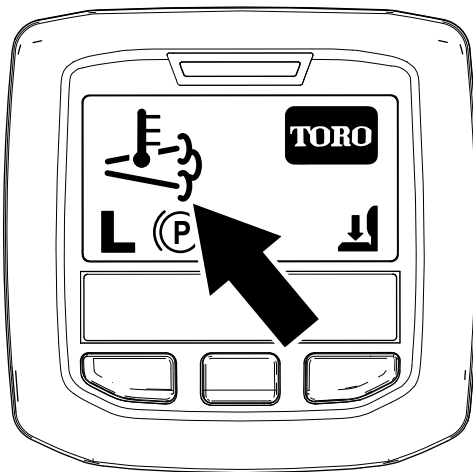

Figure 36
- The high exhaust-temperature icon  displays in the InfoCenter (Figure 36).